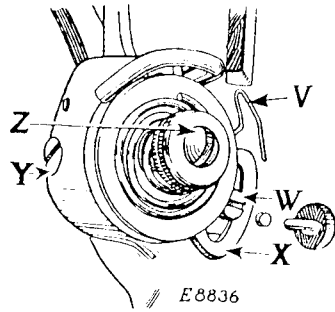

FIG. 18. ADJUSTMENT OF THREAD TAKE-UP SPRING
The thread take-up spring (V, Fig. 18) should be set so that when the eye of the needle reaches the goods on the downward
stroke of the needle bar, when sewing, the spring will be through acting and will rest against the thread guard. If the spring is not correctly set, loosen the screw (W, Fig. 18) and move the thread take-up spring regulator plate (X, Fig. 18) downward (to the right) for more movement of the spring, or upward (to the left) for less movement. When the spring is correctly set, securely tighten the screw (W).
To increase the tension on the thread take-up spring (V), loosen the set screw (Y, Fig. 18) at the rear of the tension discs and turn the tension screw stud (Z, Fig. 18) to the right for more tension, or to the left for less tension, then tighten the set screw (Y).